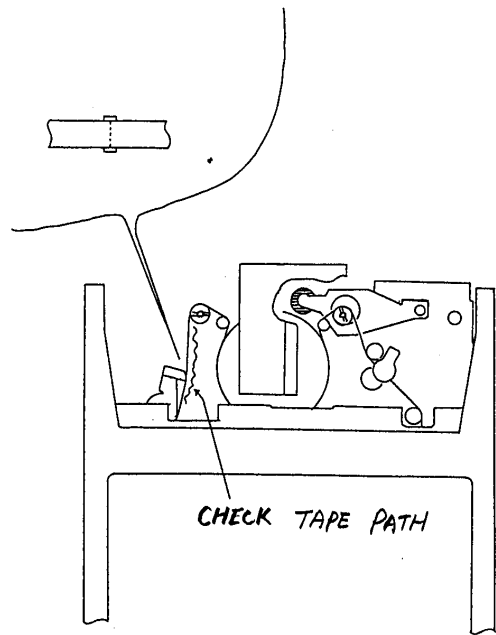

Fig 6
- * While tape runs, no curl of tape occurs on the lower portion of Impedance Roller S. See Fig 6.
- * Tape touches even on the blade of cleaner guide. See Fig 6.